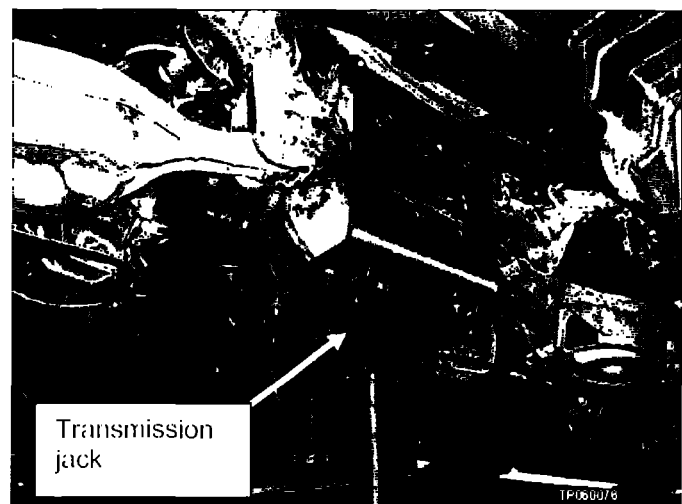

Figure 25
- 25. Use bolts to attach a transmission jack to the adapter tool (see Figure 25).